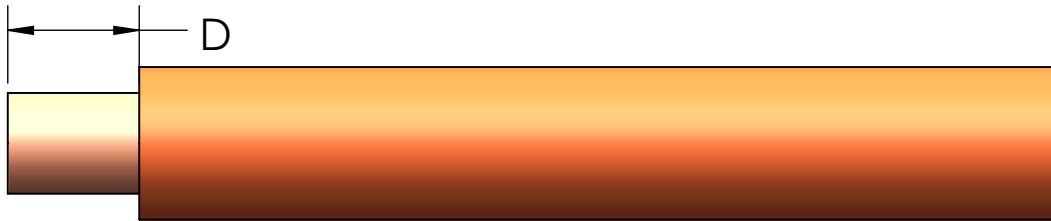

Figure 9
1) As figure 9 shown, strip the outer jacket per table 6 dimension “D”, the conductor not allowed to be damaged when the cable stripped;